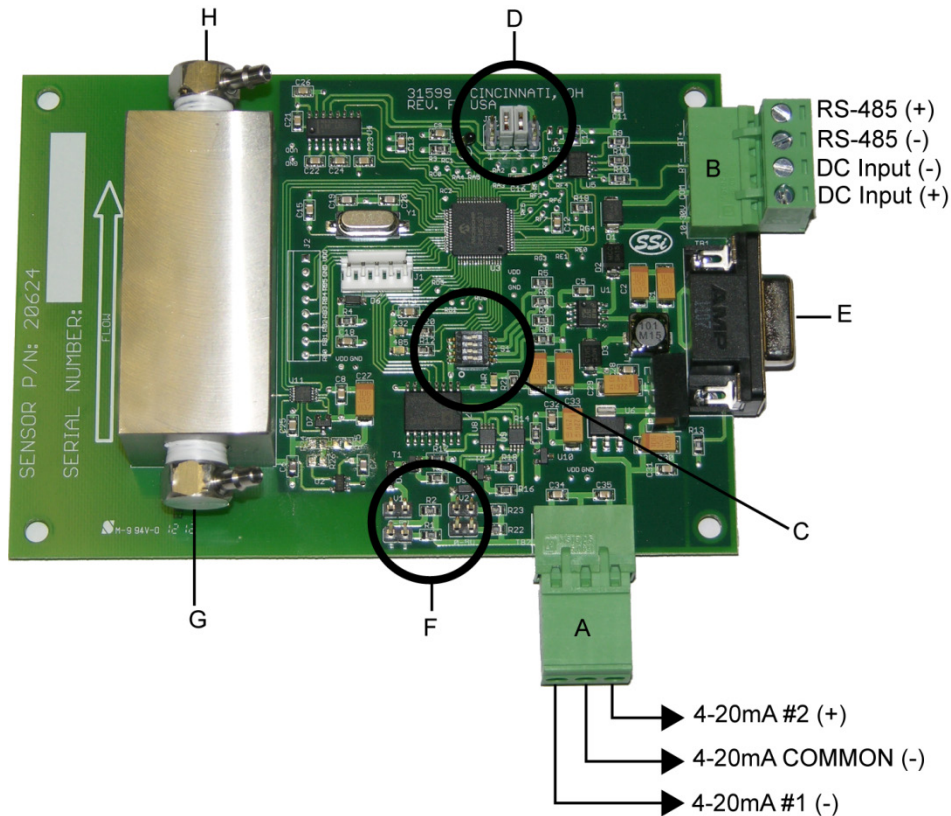

Figure 2 - H2 Sensor Wiring
*Wiring:* See Figure 2.
*(Items "A" and "B" in Figure 2)*
There are two terminal blocks on the H2 cell circuit board. Figure 2 shows their locations.
*(Item "C" in Figure 2)*
(Item "D" in Figure 2)
Four jumper terminals can be found on the board approximately 1.5" (3.81cm) to the left of the RS-485 connections (specifically, when looking at the board in the orientation shown in Figure 2). These jumpers determine the pins that transmit and receive data via RS-232 communication. The jumpers should be on Pins 2 and 3 for normal Modbus RTU operation (pin 2 is receiving and pin 3 is transmitting). The jumpers should be on Pins 1 and 4 if the sensor is being used to communicate via the simple ASCII protocol used on the previous version of the SSI Hydrogen Sensor (pin 2 is transmitting and pin 3 is receiving).
(Item "E" in Figure 2)
(Item "F" in Figure 2)
*(Items "G" and "H" in Figure 2)*